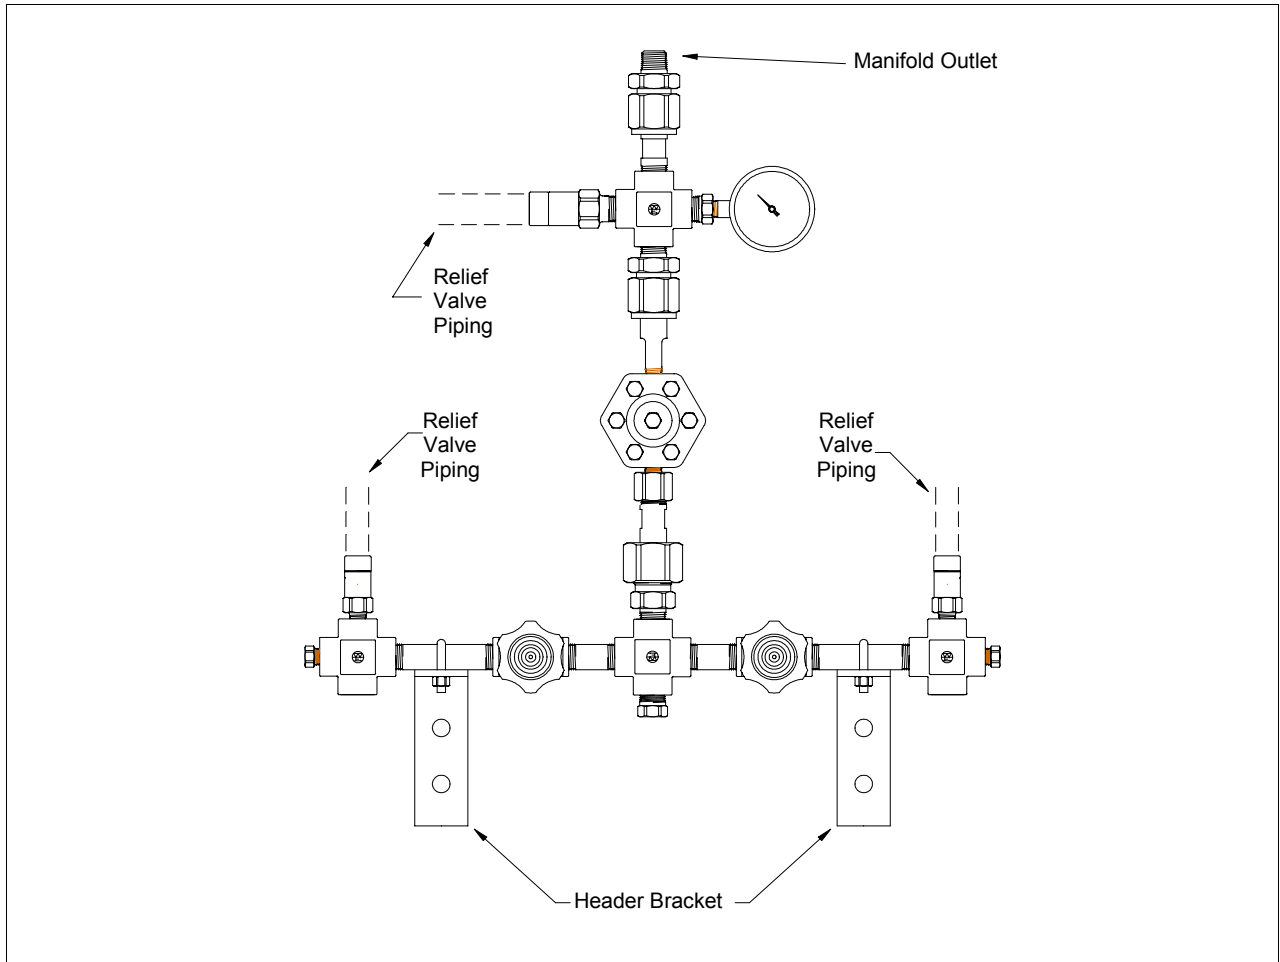

FIGURE 5
6. Mount manifold by placing the header on the brackets. Fit the U-bolt over the header pipe and tighten the mounting nuts. (Figure 5).
1. A 1/2" NPT male union is supplied with the control and is located at the outlet of the manifold. Connect this union to the pipeline system. The union provided permits removal of the manifold for service. (Figure 5)